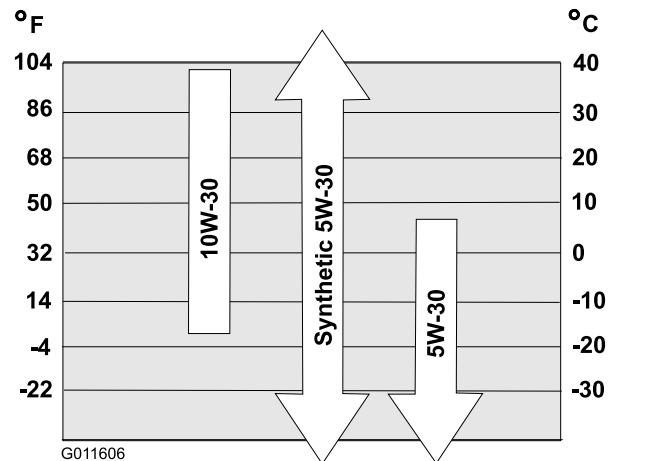

Figure 20
Oil viscosity	Refer to Figure 20.
Use Figure 20 to select the best oil viscosity for the outdoor temperature range expected:
7. Carefully pour about 3/4 of the engine capacity of oil into the oil-fill tube. Use Figure 20 to select the best oil viscosity for the outdoor temperature range expected: